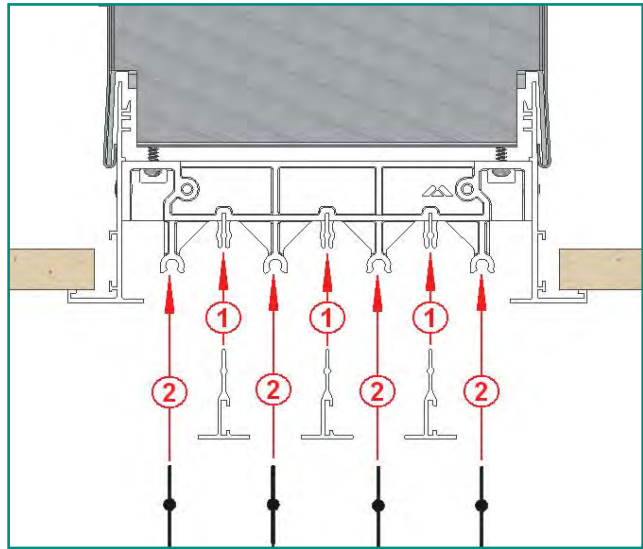

Figure 17: Replace Tee Bars, then
- 4- Reassemble the diffuser by first replacing the Tee bars (1), then the paddle blades (2) as seen in figure 17